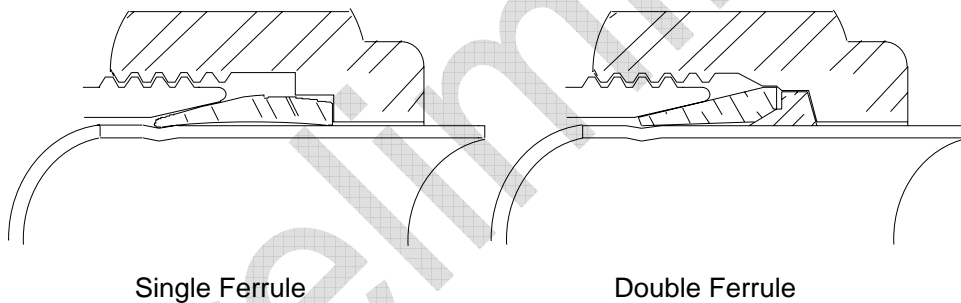

Figure 3: Metal Single and Double Ferrule Compression-type Vacuum Fittings
**MKS does not warranty the 622B, 623B, or 626B transducers when single or double metal ferrule compression-type vacuum fittings (shown in Figure 3, page 24) are used because damage will occur to the transducer when improper tightening procedures are followed.**